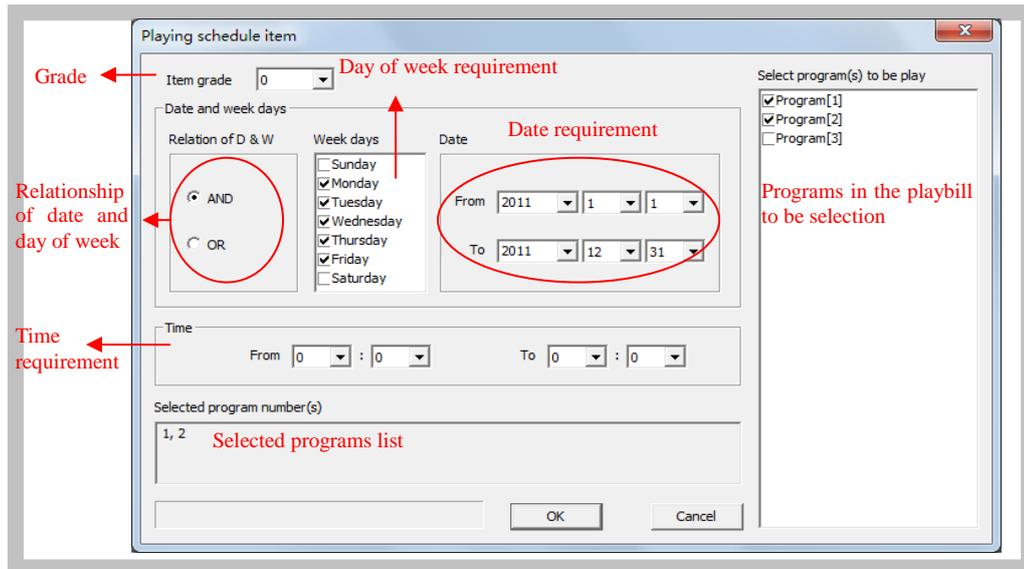

Figure41 Edit a playing schedule
2) Click “Add” button, or select an old schedule and click “Edit” button, the “Play schedule item” dialog box pops up, as Figure41 shown.